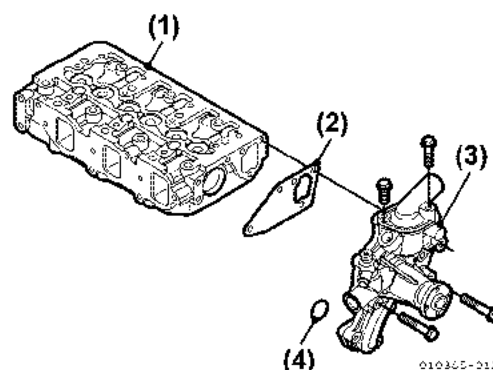

Figure 5-167
- (b) Replace the O-ring for the connecting part of the pump, which is inserted in the cylinder block, and tighten the freshwater pump to the specified torque (Figure 5-167).